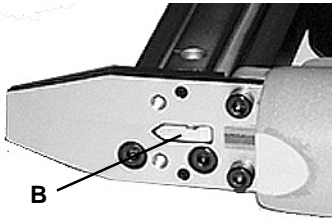

Figure 7
4. Push the jammed point out of the opening (**B**) in Figure 7. You can access it from inside the magazine.